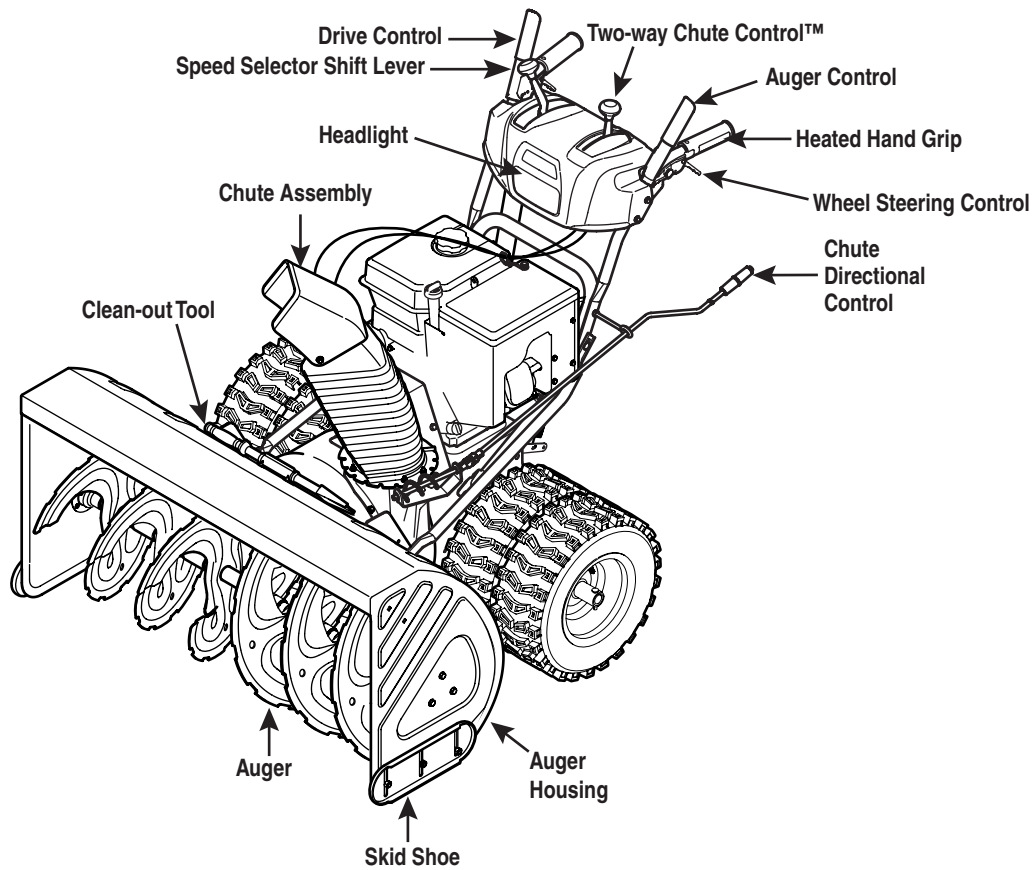

Figure 4-1
Snow thrower controls and features are described below and illustrated in Figure 4-1.
3. To turn the snow thrower to the left or right, squeeze the respective wheel steering control. Refer to Figure 4-1.